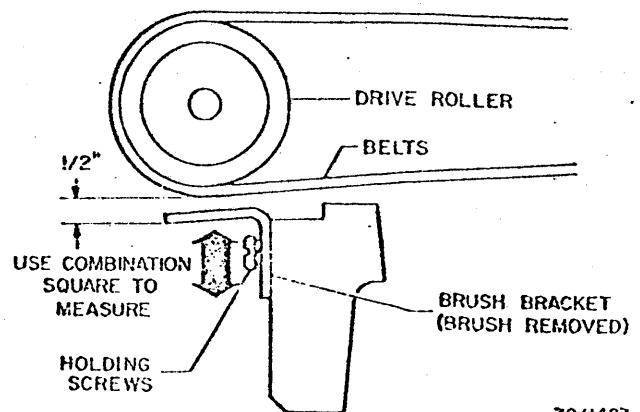

Fig. 3-131. Brush Bracket
2. Set the bottom of the brush bracket one-half inch from 'B' transport belts (Fig. 3-131). At this bracket setting the brush should interfere with the belts by one-sixteenth inch.